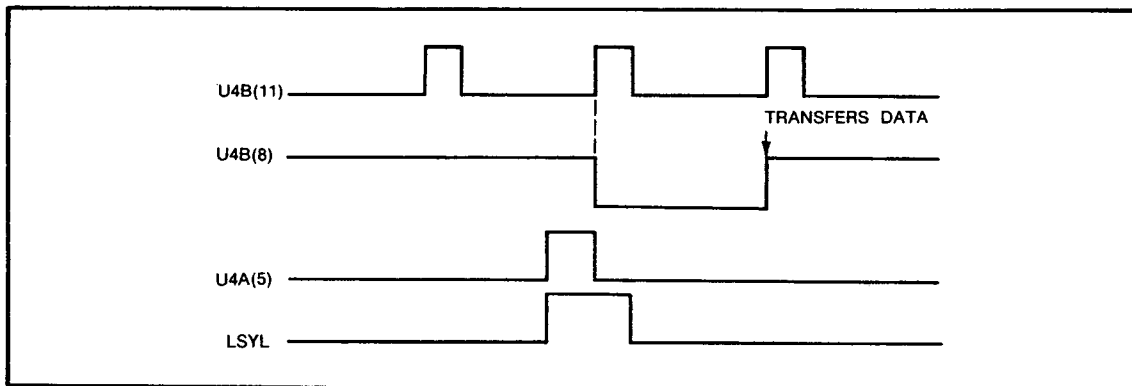

Figure 8-12. Data Transfer Timing in A10 Circuit
8-186 The lower byte is loaded into U16 and U11 when LSYL, decoded on A14, goes high. The data, which has been temporarily stored in U16, U11, and U17, is next transferred to U10, U15, and U7A by the operation of U4A and U4B. When LSYL goes high, a high is clocked into U4A(5) and is presented to U4B(12). The next positive transition at U4B(11) causes U4B(8) to go low, which clears U4A(5). The following positive transition at U4B(11) then clocks U4B(8) high. The low to high transition of U4B(8) loads the data into U10, U15, and U7A. Figure 8-12 shows the timing of this operation.